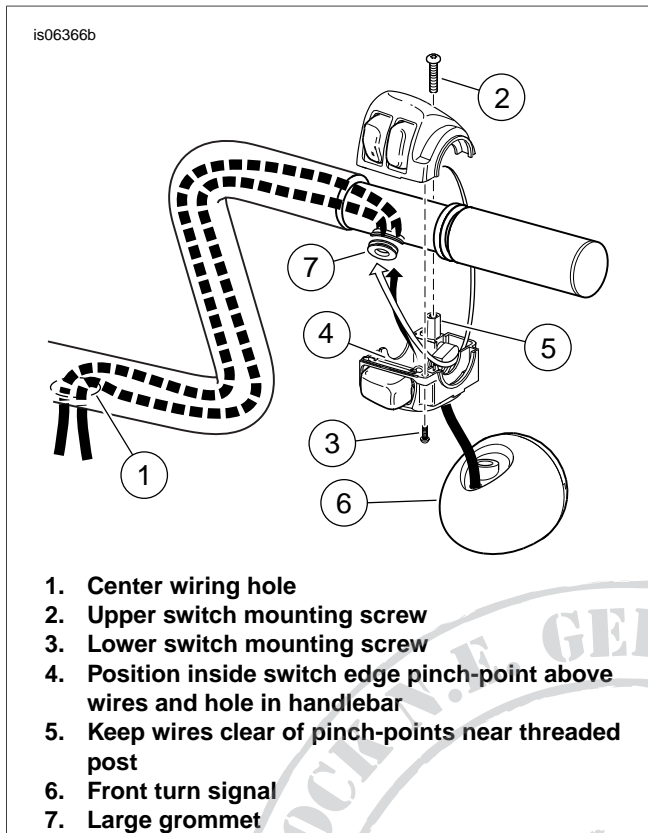

Figure 5. Turn Signal and Switch Wire Routing Through Switch Housing
3. For models **WITHOUT** handlebar-mounted turn signals: Proceed to **Step 13** (after Figure 5).
7. Repeat Steps 4 through 6 with the left-side turn signal wire bundle. Proceed to **Step 13** (after Figure 5).
See Figure 5. Verify that the large grommet (7) has been positioned on the switch and turn signal wire bundle, close to the switch end.